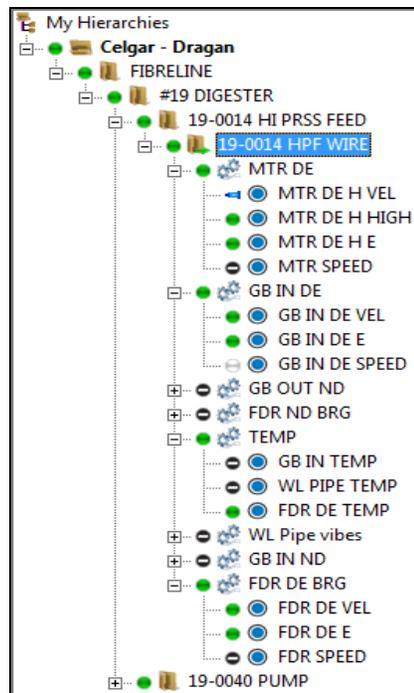

Figure 1. Select equipment
1. Select the equipment to apply a filter against. [Figure 1] Remember, applying filters at the hierarchy level could potentially take some time.